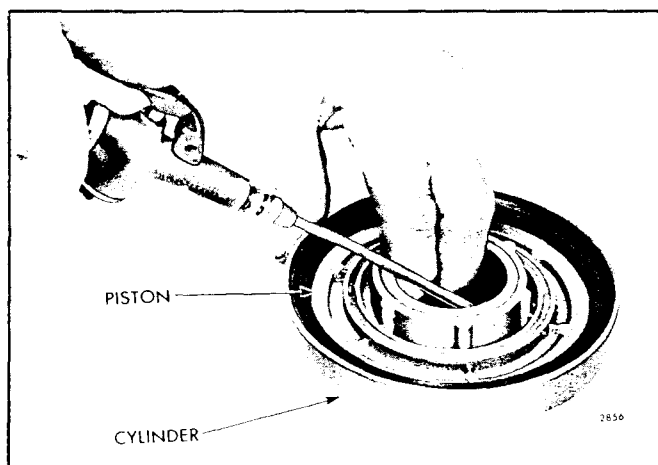

Fig. 28 - Removing Forward Clutch Piston from Forward Clutch Piston Cylinder
- c. Place the nozzle of an air hose in one of the three oil holes in the inside diameter of the forward clutch piston cylinder. Then, while covering the two remaining oil holes as shown in Fig. 28, apply light air pressure behind the piston and force the piston up out of the cylinder.